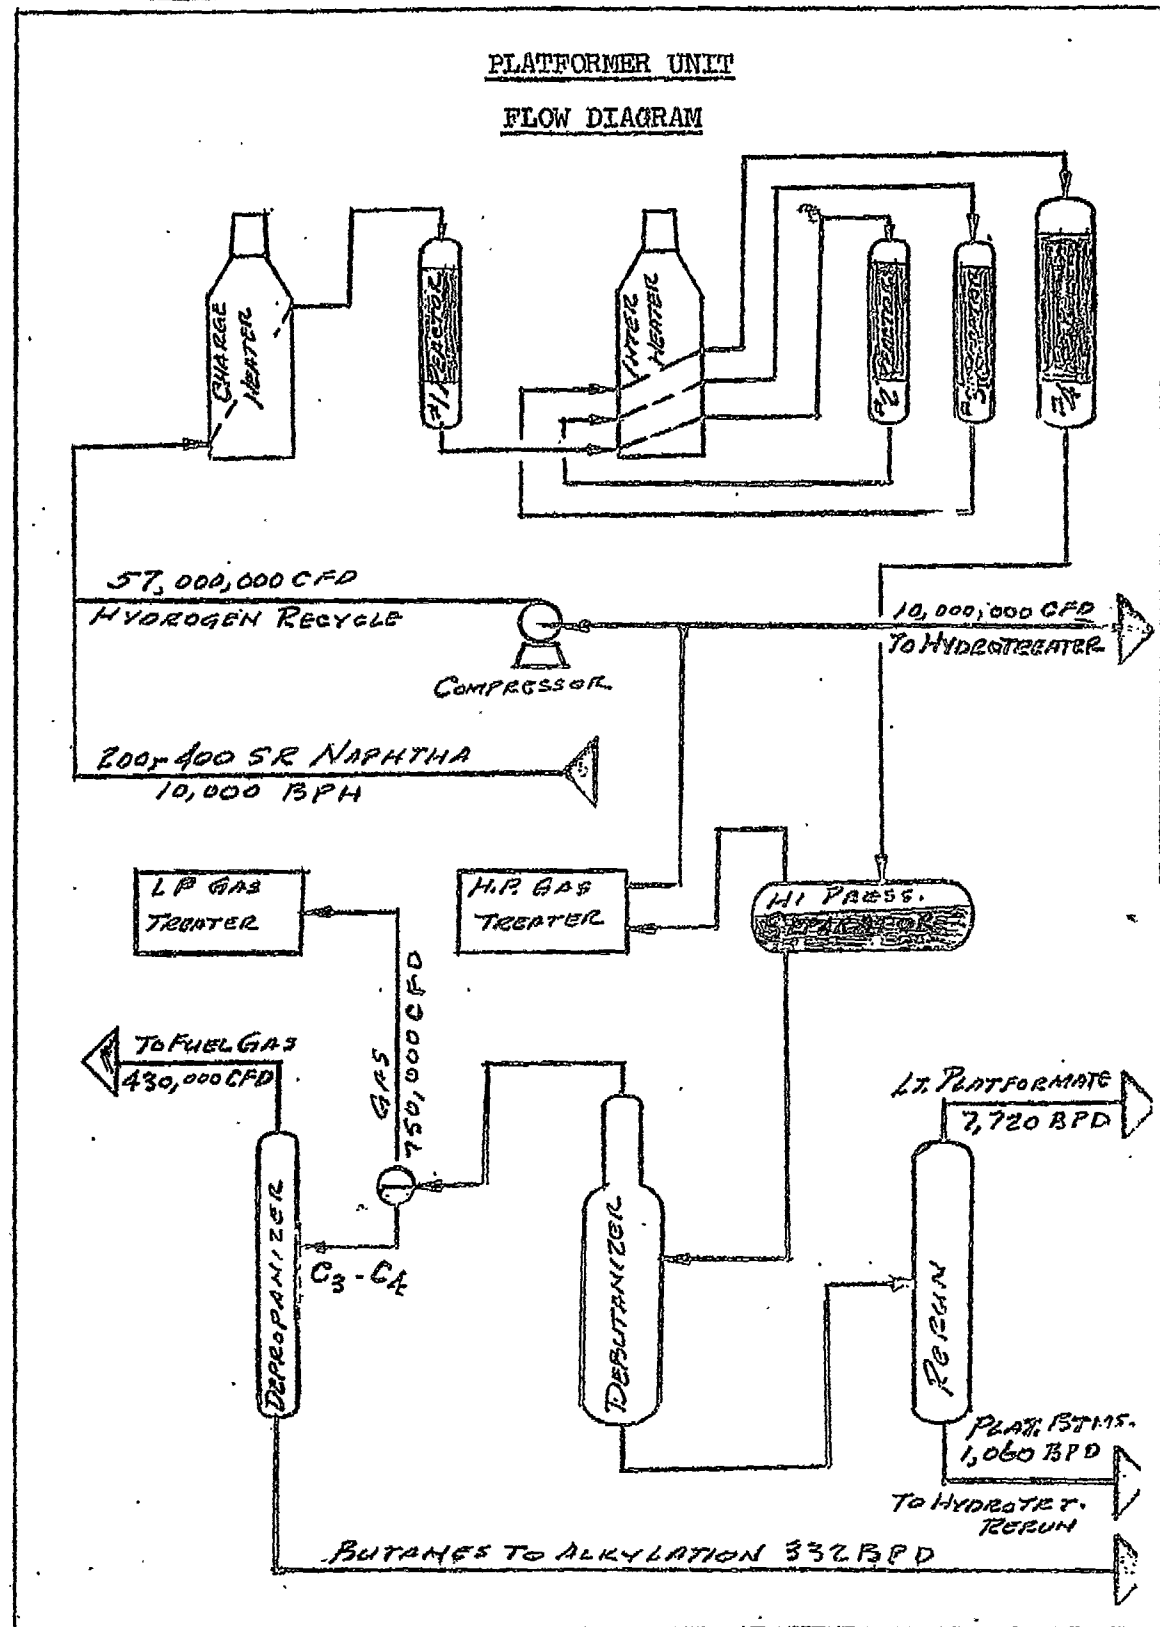

FIGURE 8
(11) Types of Drawings: The petroleum worker will come in contact with many varieties of drawings, all of which he should be capable of reading and interpreting. The most frequently encountered drawings are:
- (a) Flow Diagrams: The primary purpose of flow diagrams is to convey pertinent information regarding material quantities and their destination with the process. They are also intended to act as guides for construction men and plant engineers in order that the problems which arise in the erection and operation of the plant may be intelligently solved. (See Figure 8)